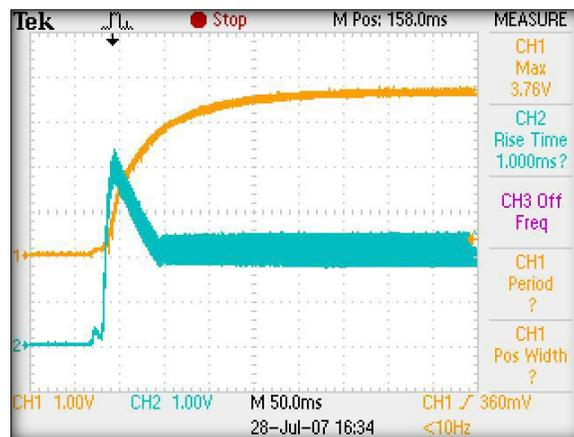

Figure 128: Incorrect kV-mA Rise Curve (Filament too hot)
- g. If the kV-mA rise curve appears as in Figure 128, then the filament may be too hot. If the red LED's have come on, reset the control board by disconnecting and reconnecting it from the 65V power supply. Decrease the Pre-Heat by turning W2 clockwise slightly.